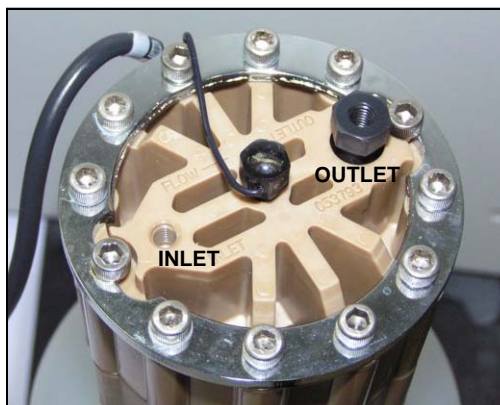

*Figure B-36. Installing the CR-TC*
6. Feed the CR-TC cable through the slot on the side of the EGC holder (see Figure B-36).